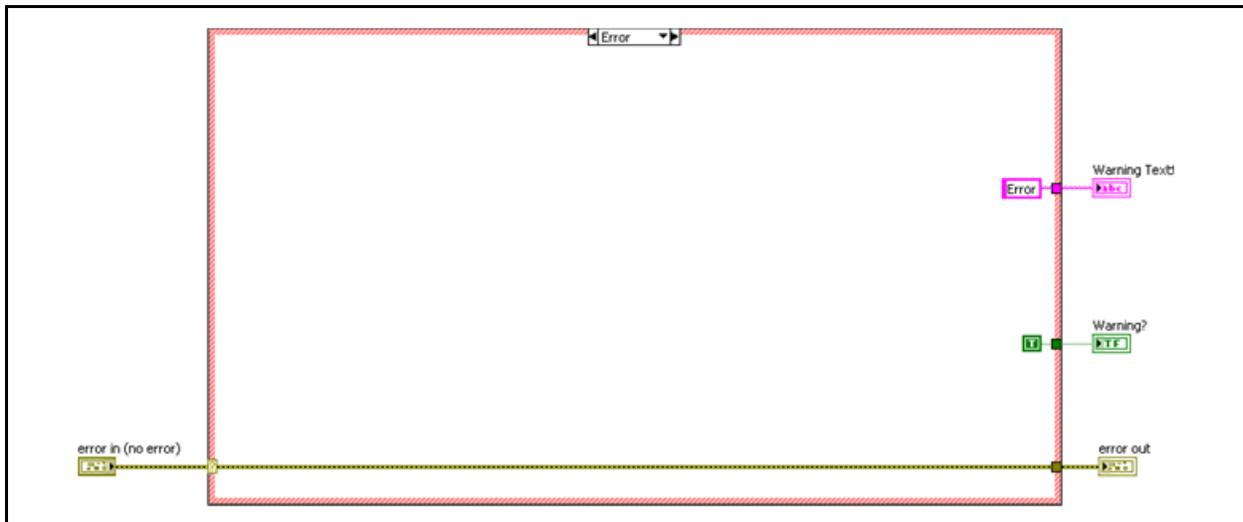

Figure 2. Error Case of Determine Warnings VI
- Confirm that you have completed the Error case, as shown in Figure 2.